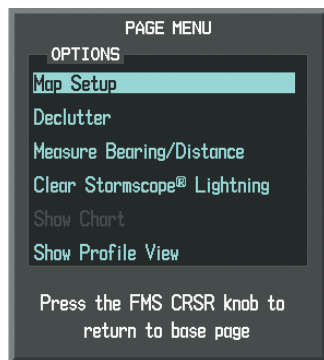

Figure 6-96 Navigation Map Page Menu
- 3) With 'Map Setup' highlighted, press the **ENT** Key (Figure 6-96).